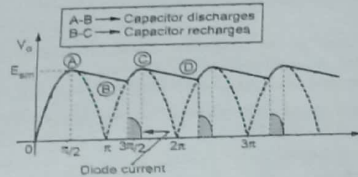

Fig. Q.31.2 FWR output with capacitor filter
- So during the period from $\frac{\pi}{2}$ to π , the capacitor C supplies the load current. It discharges to point B shown in the Fig. Q.31.2.
- Again at point C, diode D2 stops conducting and capacitor supplies load and starts discharging upto point D in the next quarter cycle of the rectified output voltage as shown in the Fig. Q.31.2. At this point, the diode D1 conducts to charge capacitor back to E_{sm} . The diode currents are shown shaded in the Fig. Q.31.2.